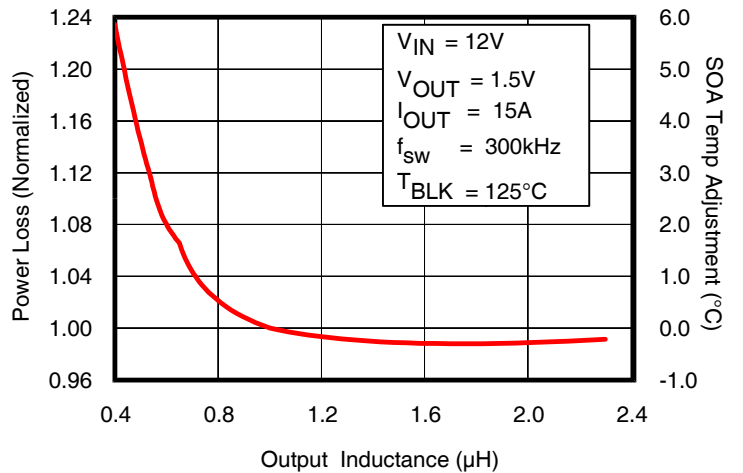

Fig. 7: Normalized Power Loss vs. Inductance
- (Fig. 7) Normalized power loss for inductor value \approx 1.08
- (Fig. 7) Normalized SOA Temperature for inductor value $\approx +2.0^{\circ}\text{C}$